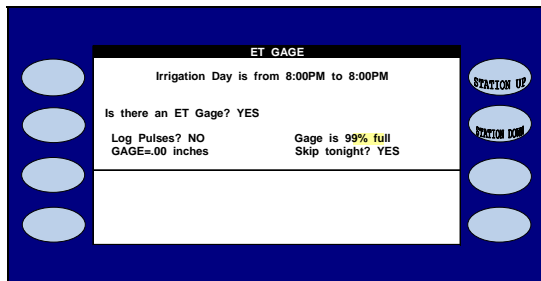

Figure 7
- 9.  Press the blue **ARROW** keys to move the cursor to the **GAGE IS 99% FULL** (Figure 7).